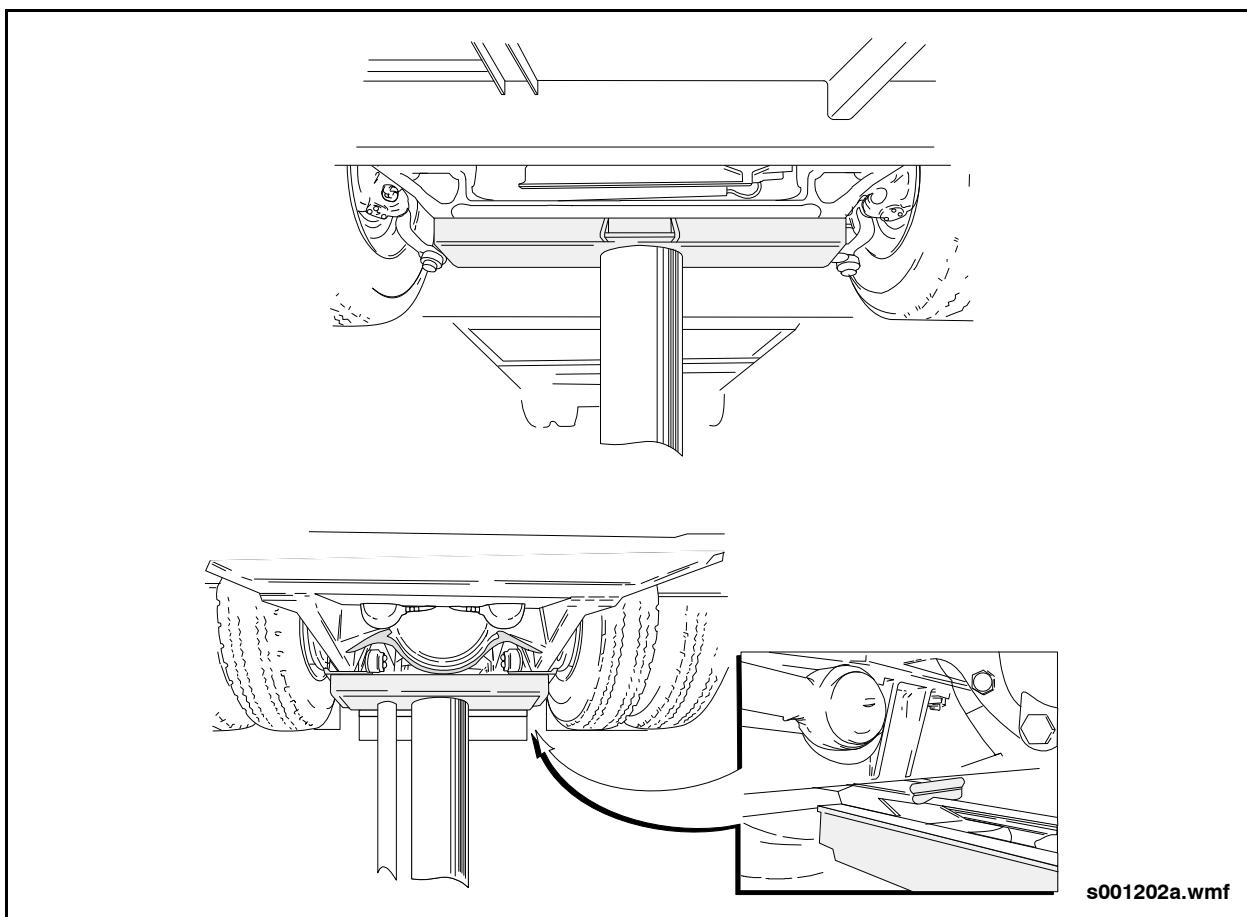

Fig. GI-17: Typical Center Post Hoist
1. Position vehicle over hoist and align hoist posts and adapter pads so these will contact the designated points. See "Fig. GI-17: Typical Center Post Hoist" on page 41.